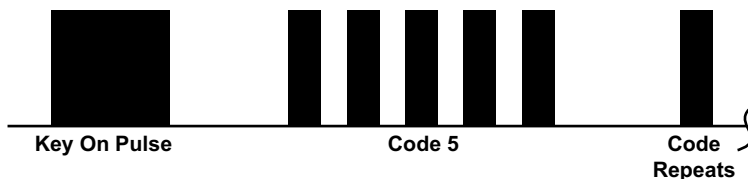

Figure 8-10 Honda engine Code Type 02
- Type 02, see Figure 8-10 and Table 8-3 on page 59